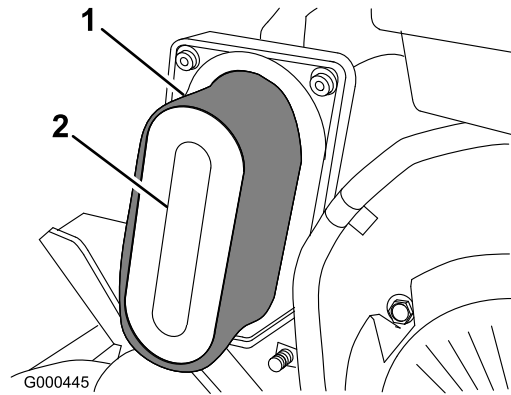

Figure 19
4. If the foam element is dirty, remove it from the paper element (Figure 19) and clean thoroughly, as follows: